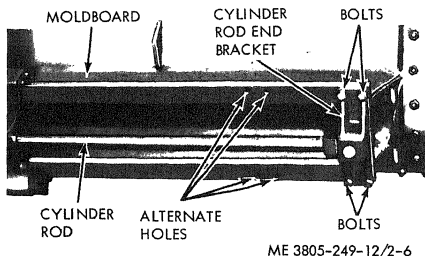

Figure 2-6. Moldboard adjustment.
(1) Lower the blade to the ground.
(2) Remove bolts and lockwashers securing the cylinder rod end bracket to the moldboard. Refer to figure 2-6.